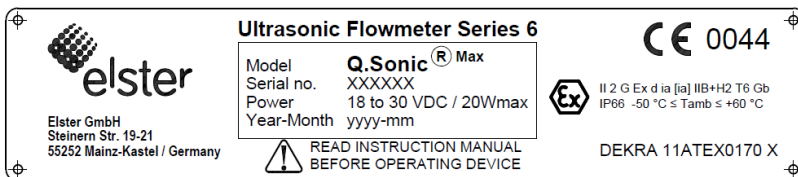
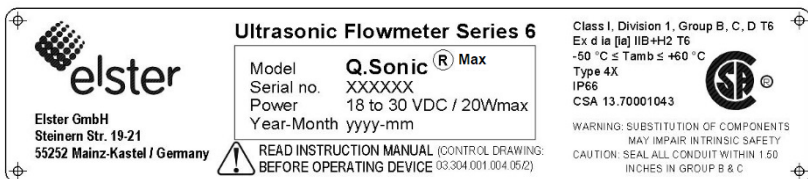

Figure 5-6: Example of an ATEX Label
Figure 5-9: Example of a CSA Label
- Refer to the type plate on the SPU for the applicable hazardous area approval. This could be according to ATEX, IECEx, FM or CSA. ⇒ Please refer to Figure 5-6 to Figure 5-9 for type plate examples for a Q.Sonic^{max} meter.